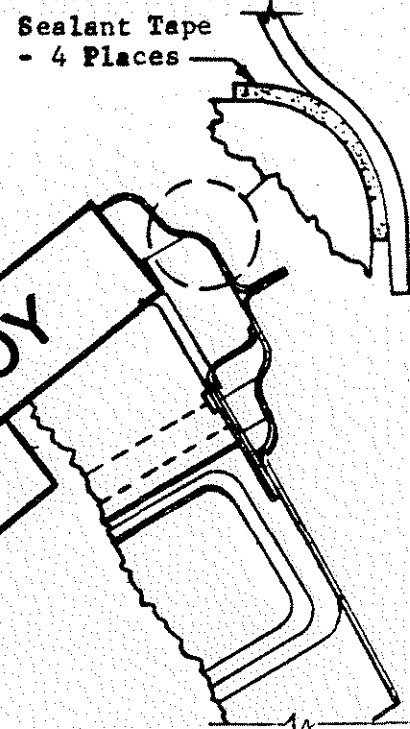

Fig. 1
- A. Install a strip of 1/16" x 1" x 8-1/2" Weatherban sealant tape on each of the four tank end radii as shown (Fig. 1, 2).